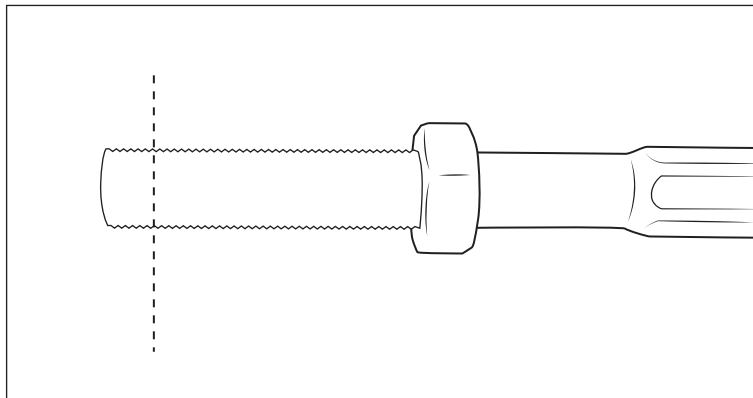

Figure 16
- B. If reusing factory outer tie rod ends, the inner tie rod ends will need to be trimmed slightly to allow correct toe in. Carefully trim $\frac{1}{4}$ " off threaded end of inner tie rod (fig. 16) Clean and deburr end of threads and reinstall factory outer tie rod ends. Snug jam nuts into place, they do not need to be fully torqued because vehicle will need front end alignment.